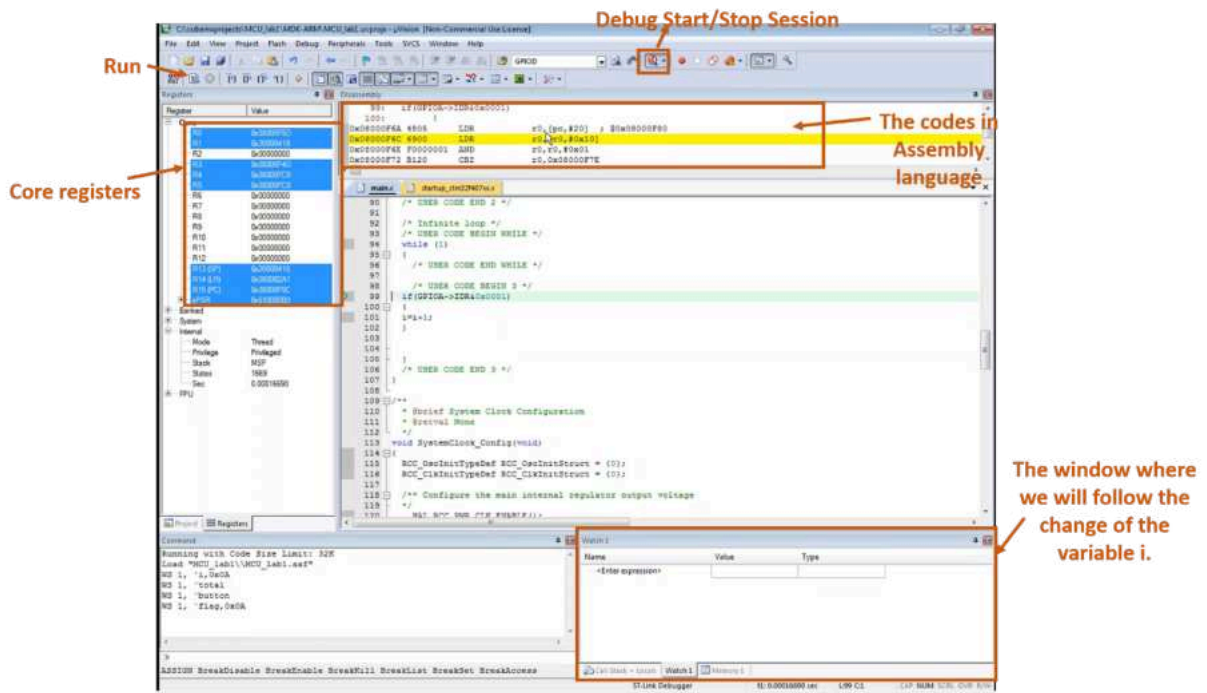
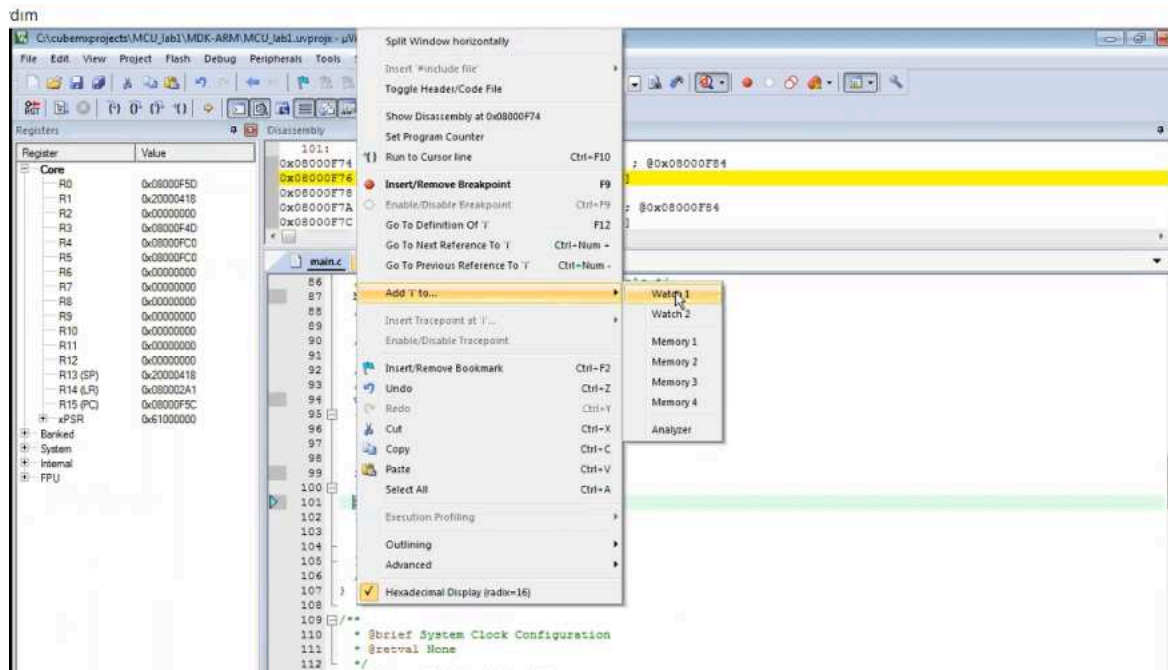

Figure 1
Figure 2
1. Reading Button Value (Button debouncing). You can understand whether your code is running and control the changes of the variable (Figure 1->Start/Stop Debug Session) using the debugger. Come to the i variable and right click. We select "Add i to" and "Watch 1" (Figure 2). Then click to "Run" and follow the changes of variable i (Figure 1). Right-click on the i which is in the Watch 1 window to convert the i displayed as hexadecimal to decimal. Here you can reset the i value by pushing the reset button on STM32F4G-DISC card and doing a hardware reset.